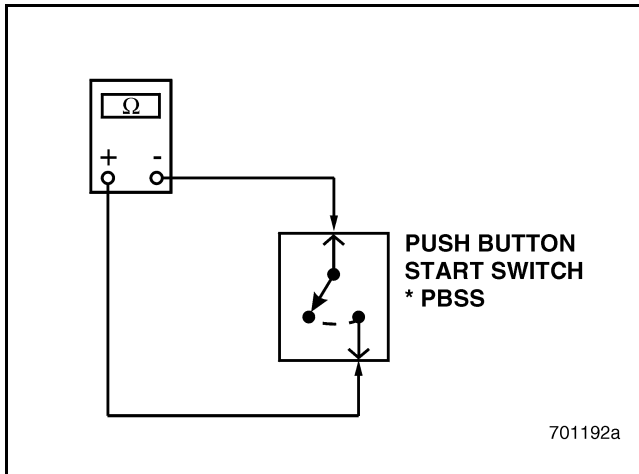

Figure 93
2. With the Push Button Start Switch in the OFF position, check for continuity between the terminals of the switch (see Figure 93). If continuity exists, replace the Push Button Start Switch.